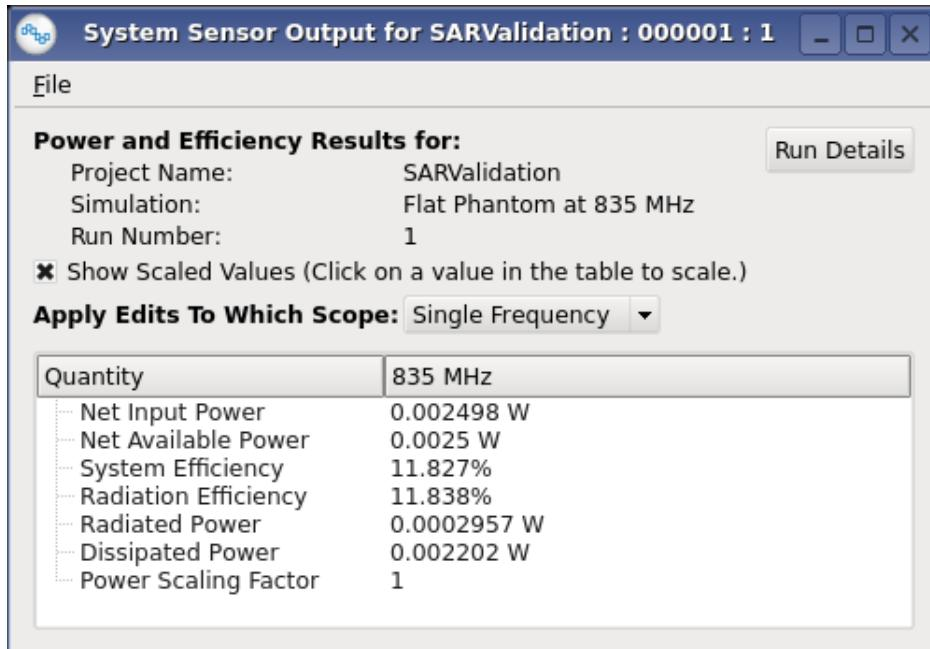

Figure 9.20: The power table from the SAR Phantom simulation, including input and dissipated powers
- Click on the power value to the right of Net Input Power (0.002498 W in Figure 9.20).